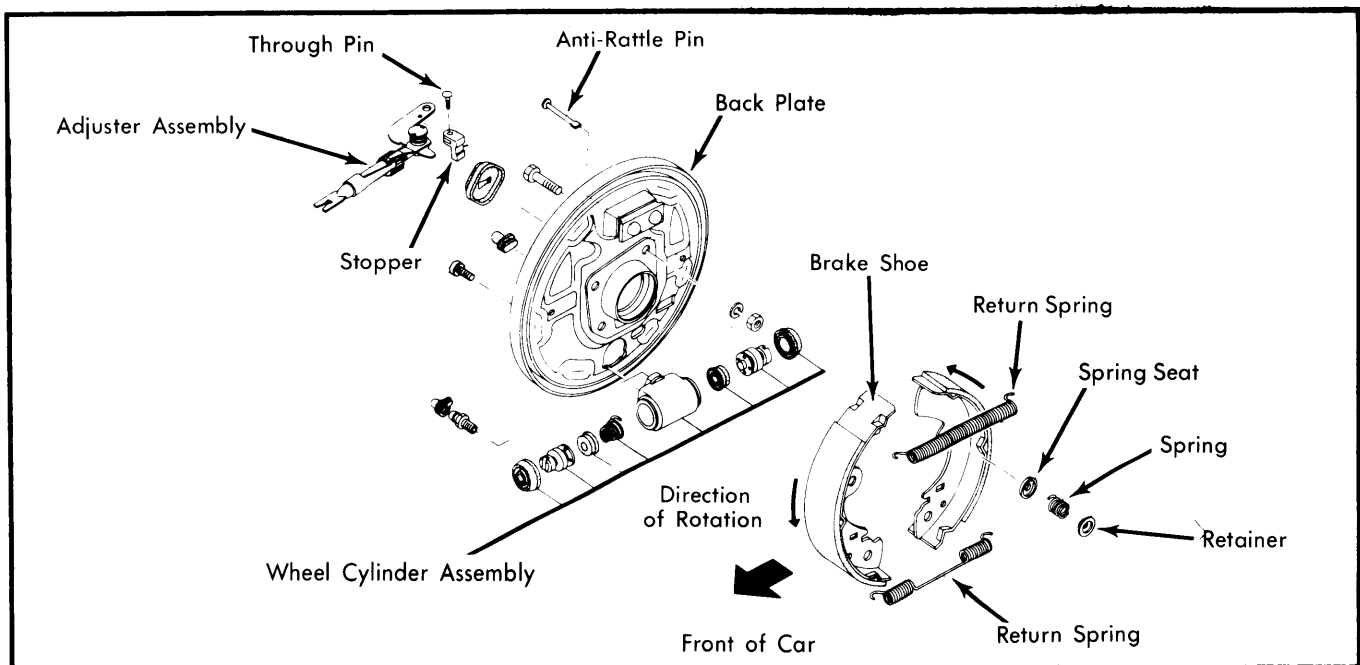

Fig. 2 Exploded View of Rear Brake Assembly
- Pull pin out. See Fig. 2. Remove stopper from lever.